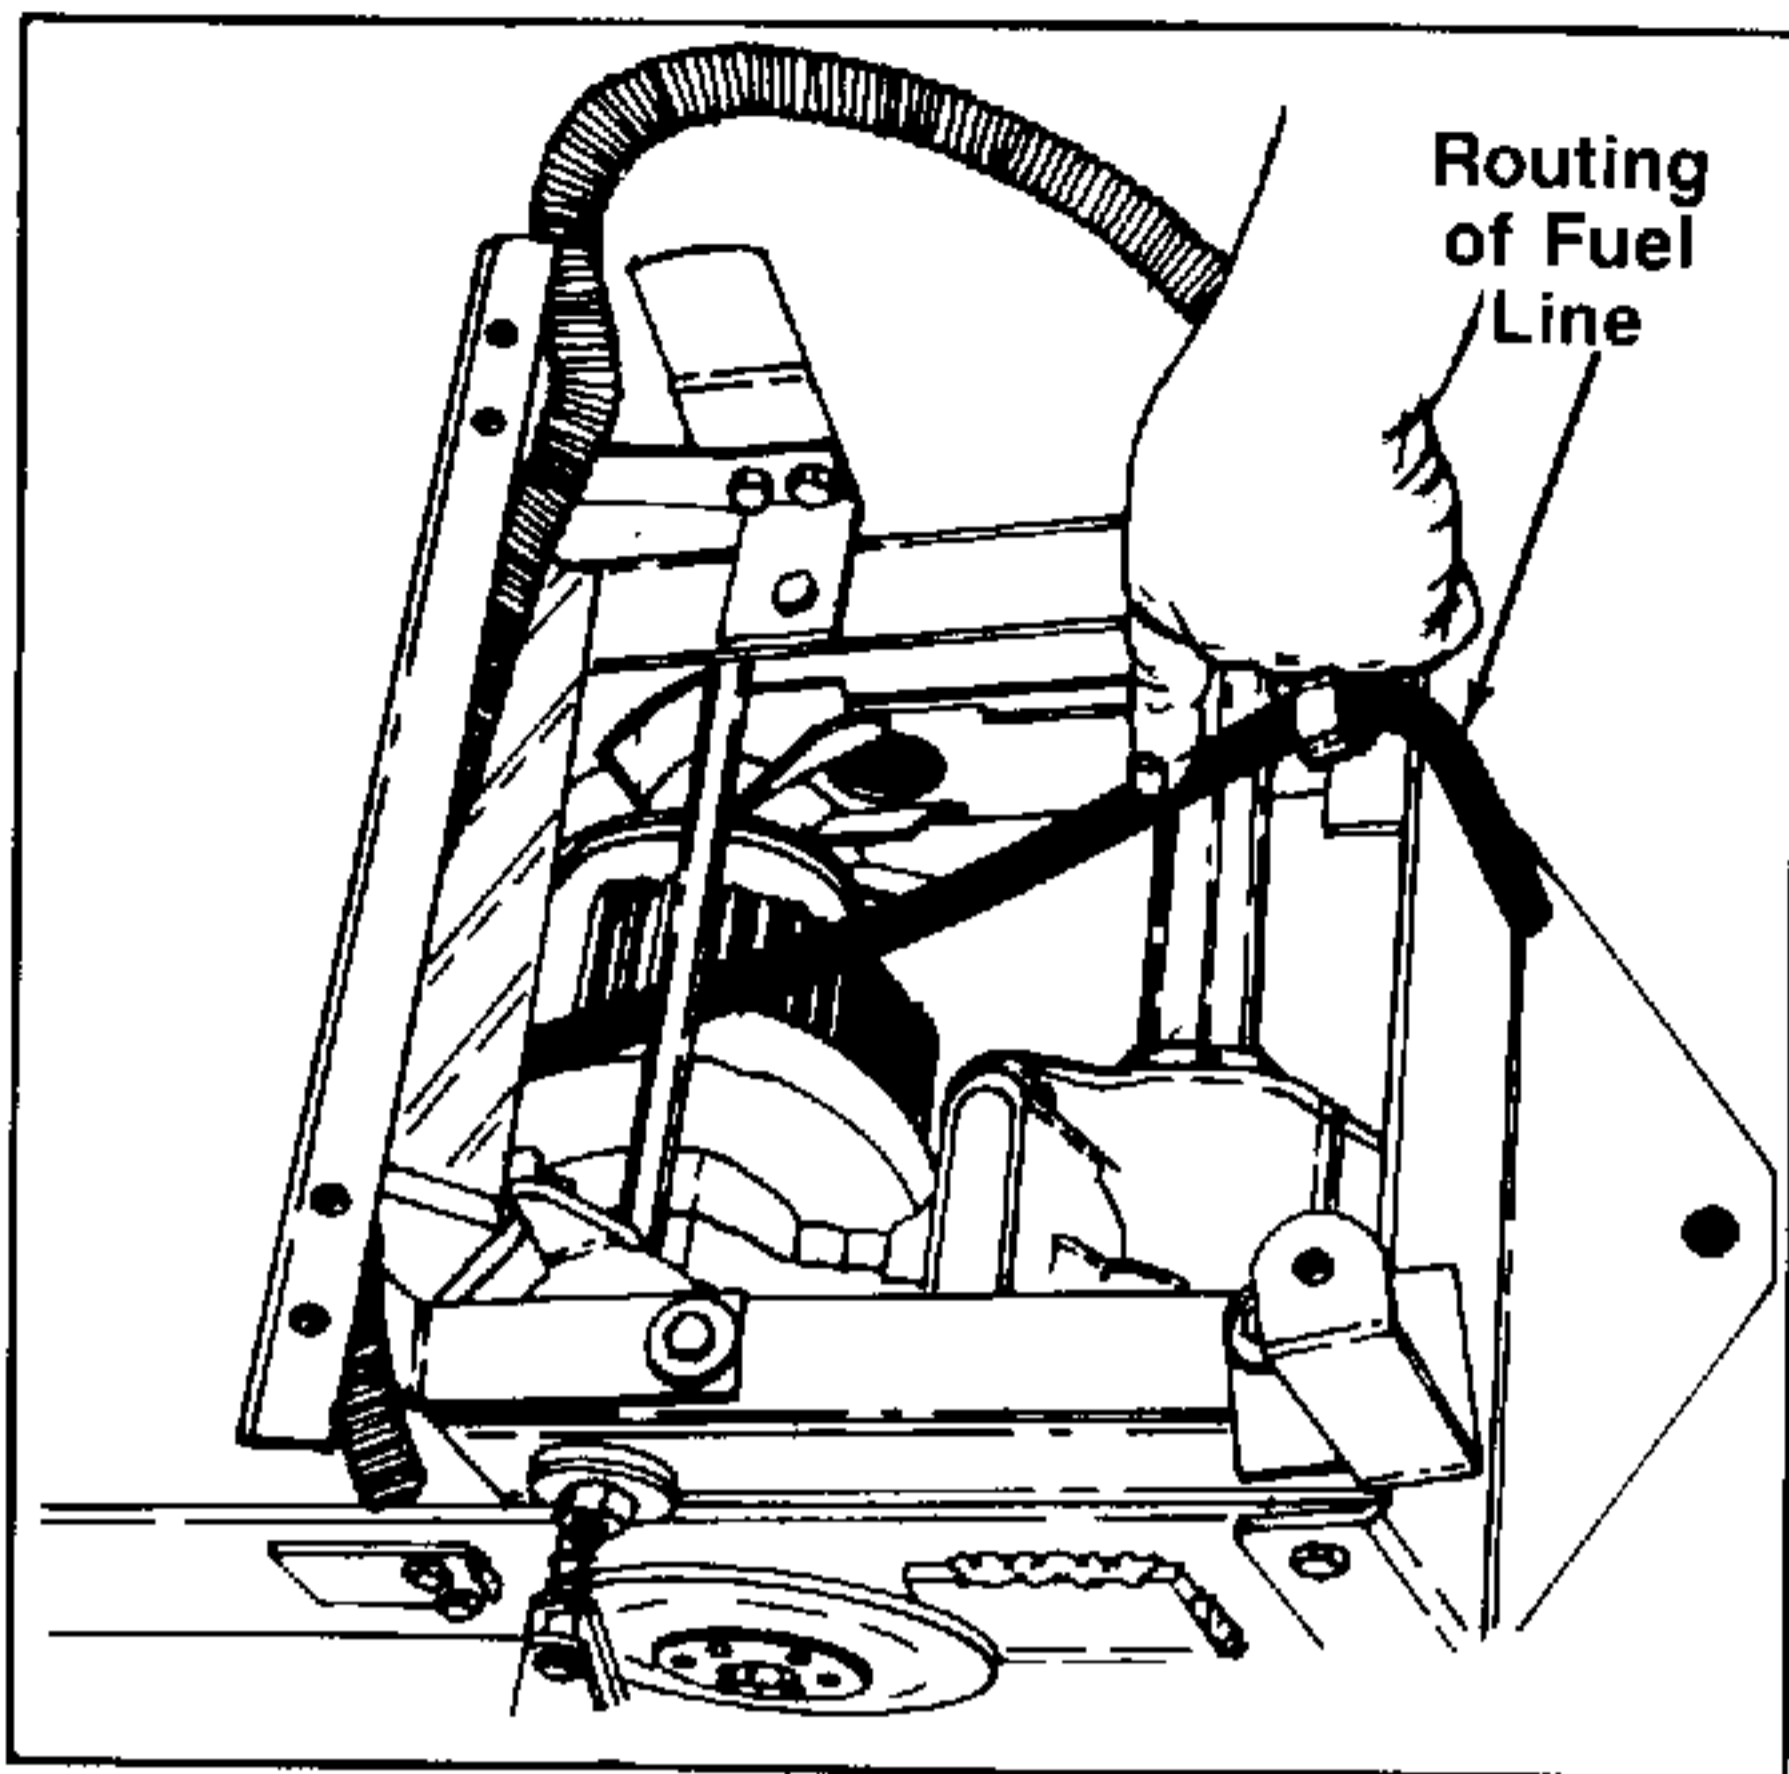

FIGURE 1.
1. Remove fender and fuel tank. Refer to section 2, page 10, figures 1, 2, 3, 4 and 5.
2. Check the routing of fuel line, take loose back at the steering pedestal and put off to one side for now. See figure 1.